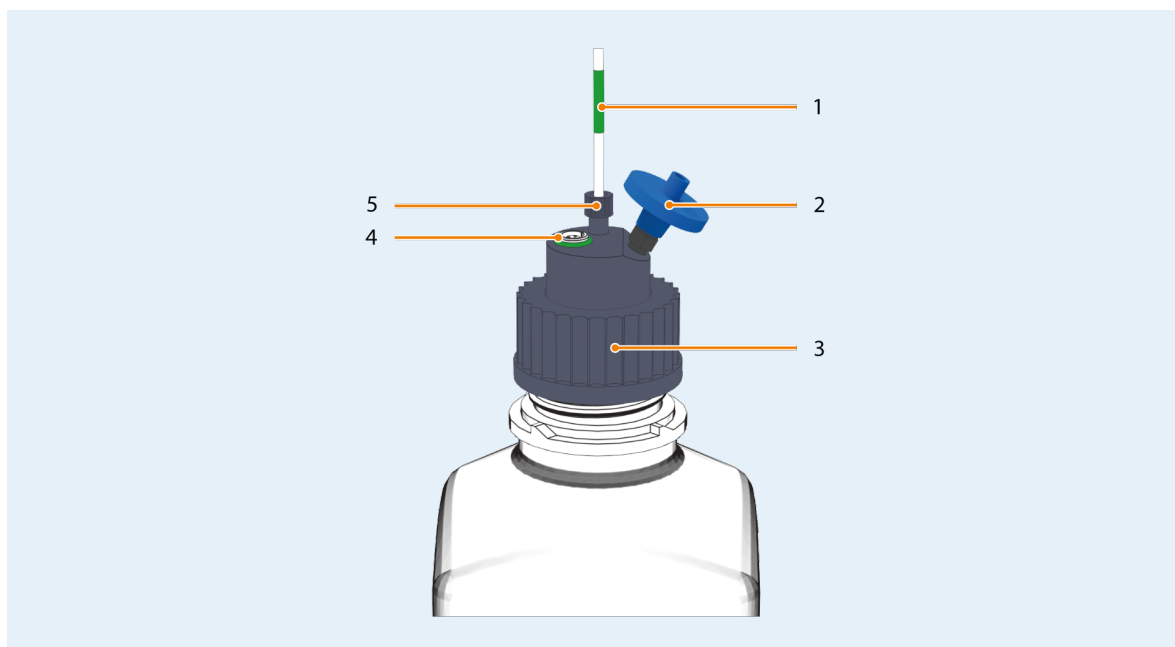

Figure 3.1: Bottle closure
- 3 Replace the screw caps by the delivered bottle closures and fasten them securely (**Figure 3.1**).